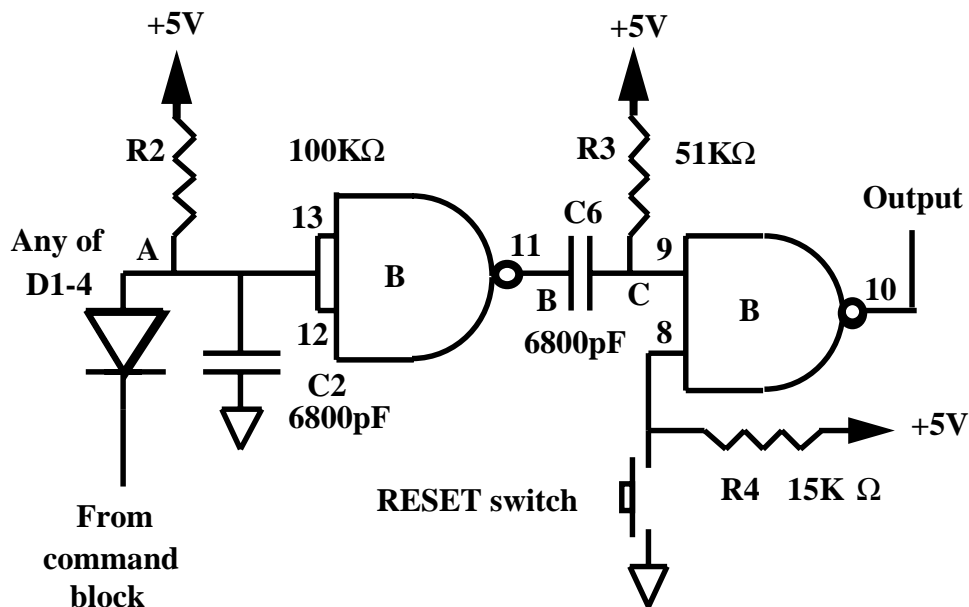
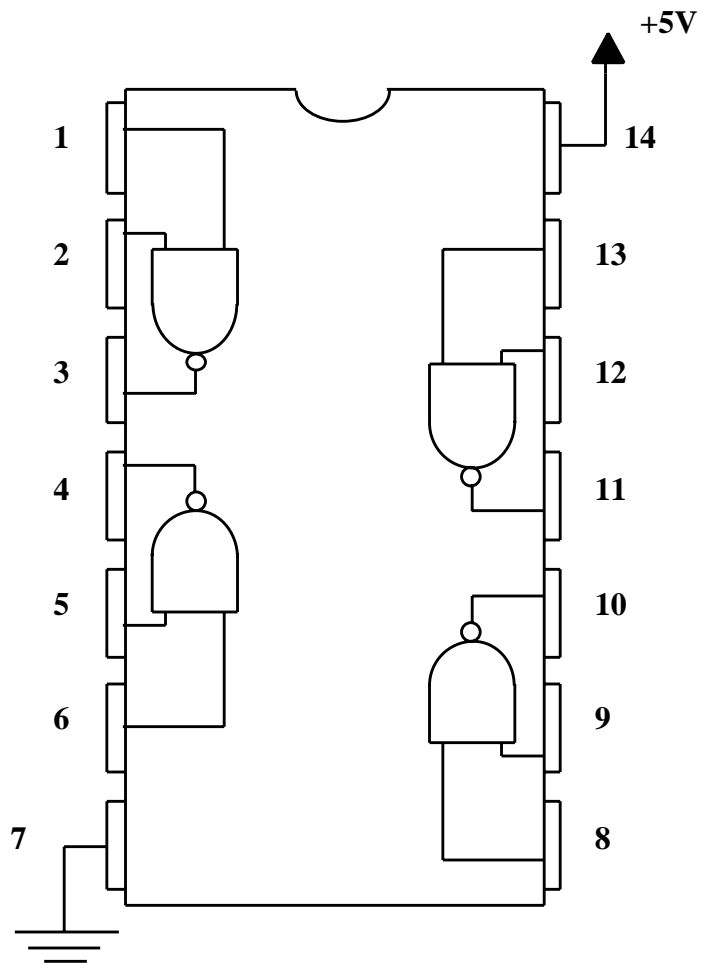
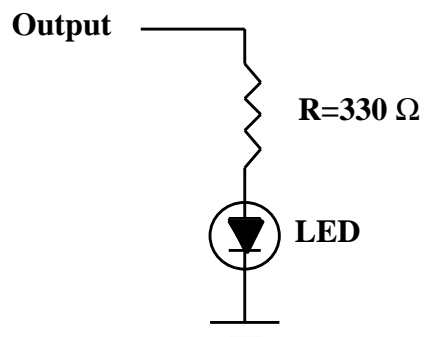

Figure 10.4 The Robot Restart Circuit.
Figure 10.6 Pinout of CMOS 4011 NAND gate.
Figure 10.7 Using an LED to construct a digital signal indicator.
1. Before you test the circuit shown in Fig. 10.4 you will need to check out the operation of the NAND gates. There are two NAND gate chips used in your robot. You should use one of them to wire up the circuit of Fig. 10.4 (see step 4) before coming to lab, and you will use the other one to characterize the behavior of NAND gates (see steps 2 and 3). The Quad NAND gate has 4011 printed on the top. The internal gates are shown in Fig. 10.6.
NAND gate with input pins 8 and 9 and output pin 10 to test and measure the output voltage for all four logic input combinations: 0-0,0-1,1-0, and 1-1. To make a logic 0, connect the pin to ground. To make a logic 1, connect the pin to 5V. To observe the value of the output, connect an LED and resistor to pin 10 of the NAND gate as in Fig. 10.7.
3. Construct the circuit of Fig. 10.4 on the protoboard. Do this before you come to Lab. You should install 4 diodes, one for each command type. Simulate the command codes by wiring the bar end of the diode to either ground or +5V. That is, to make a logic 0, connect the pin to ground. To make a logic 1, connect the pin to 5V. Initially connect all 4 diodes to ground. To observe the value of the output, connect an LED and resistor to pin 11 of the NAND gate as in Fig. 10.7.